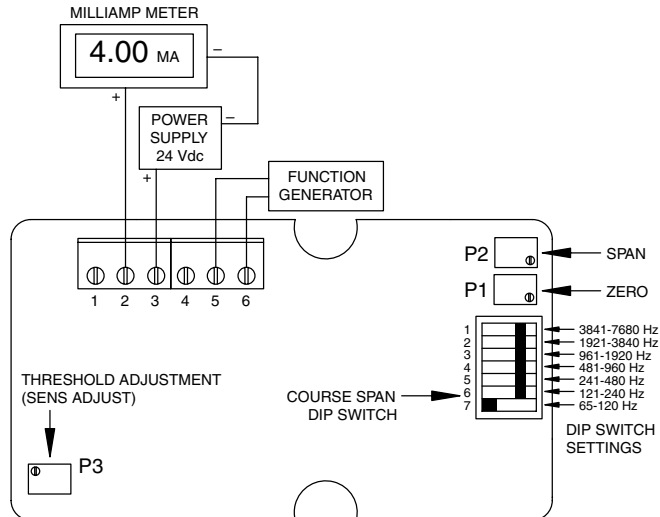

Figure 5C. FLSC-45B Calibration Setup
1. Remove top cover of FLSC-45B to access calibration compartment (see Figure 5C).